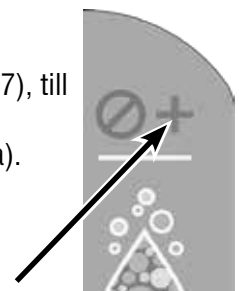

Figure 7
3. Dispense water from the SPARKLING WATER lines by pressing & holding the "+" button (Figure 7), till the cloudy appearance dissipates and the water flows clear.